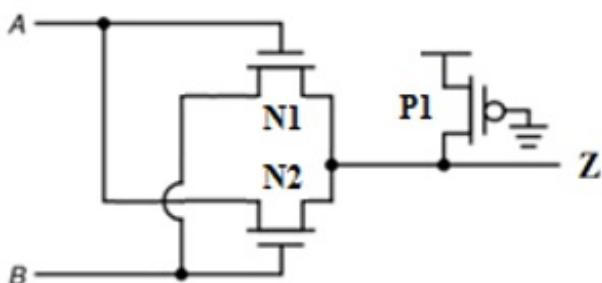

Fig. 1C
- 1A) Discuss the operation of any two different forms of pull-up for an NMOS inverter circuit. Draw transfer characteristics for these different forms of pull-up. Compare the relative merits of these different forms of pull-up. (4)
- 1B) With neat diagrams, explain the working of the MOS capacitor. Briefly illustrate the fabrication steps (3) of a MOS Capacitor.
- 1C) Refer the pass-transistor based logic network given in **FIG 1C**. (3)